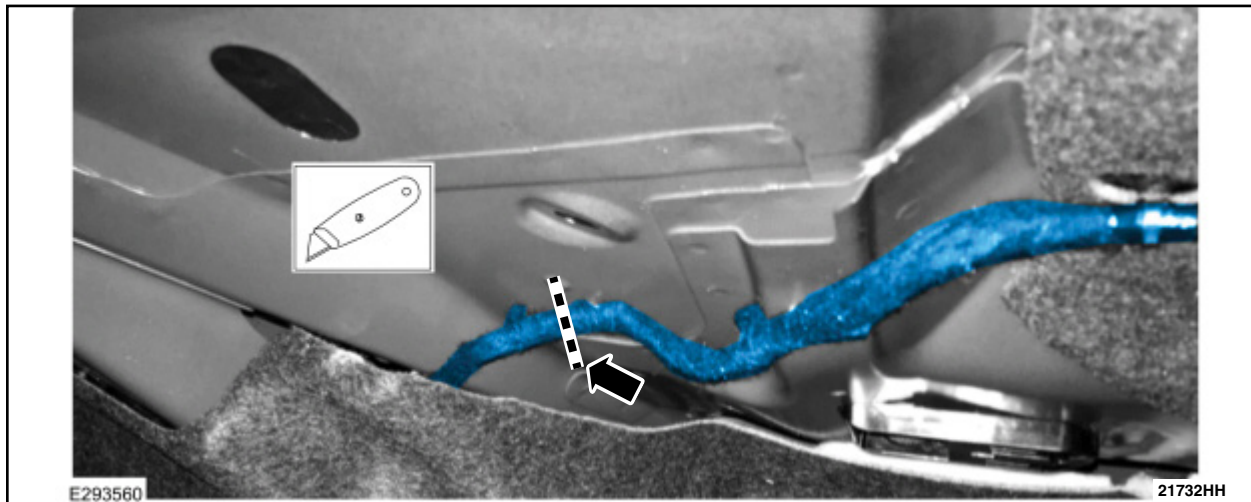

FIGURE 40
53. Cut out the damaged section of the harness. Make the cut after the ground wire (front of vehicle side of harness) at the location of the harness noted. See Figure 40.